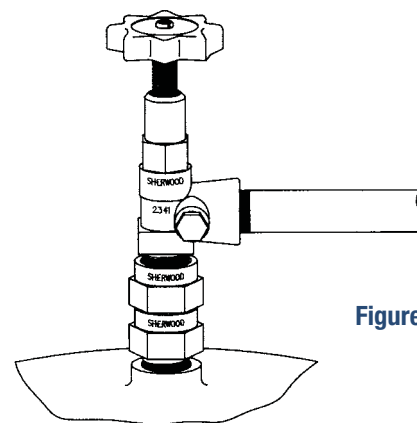

Figure 3
3. With a wrench, turn the valve approximately an eighth to a quarter turn further to ensure a snug fit. Do not overtighten. The assembly should resemble Figure 3, without the transfer pipe installed. The adapter seals with a gasket. If the transfer valve-to-adapter joint leaks when installed on the tank, remove the valve/adapter assembly and replace the adapter gasket or use a new adapter.
2. Attach full-size piping to the outlet of the transfer valve as shown in Figure 3, and connect this piping to the liquid-transfer equipment.